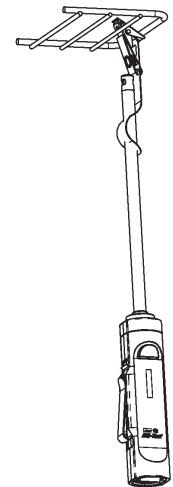

**Fig. 35:** Probe Clip Hanger used on a room sensor
- Room Sensor measurement is done by holding the Blü-Test probe directly under the sensor enclosure for 3 minutes or until the reading stabilizes. Body heat or breathing on the sensor is a major source of faulty readings, so holding the Blü-Test plastic at the button end and standing away from the sensor is the best way to ensure a good measurement. The Probe Clip Hanger accessory (BA/PCH-1) makes this easier by holding the probe for you (Fig. 35).